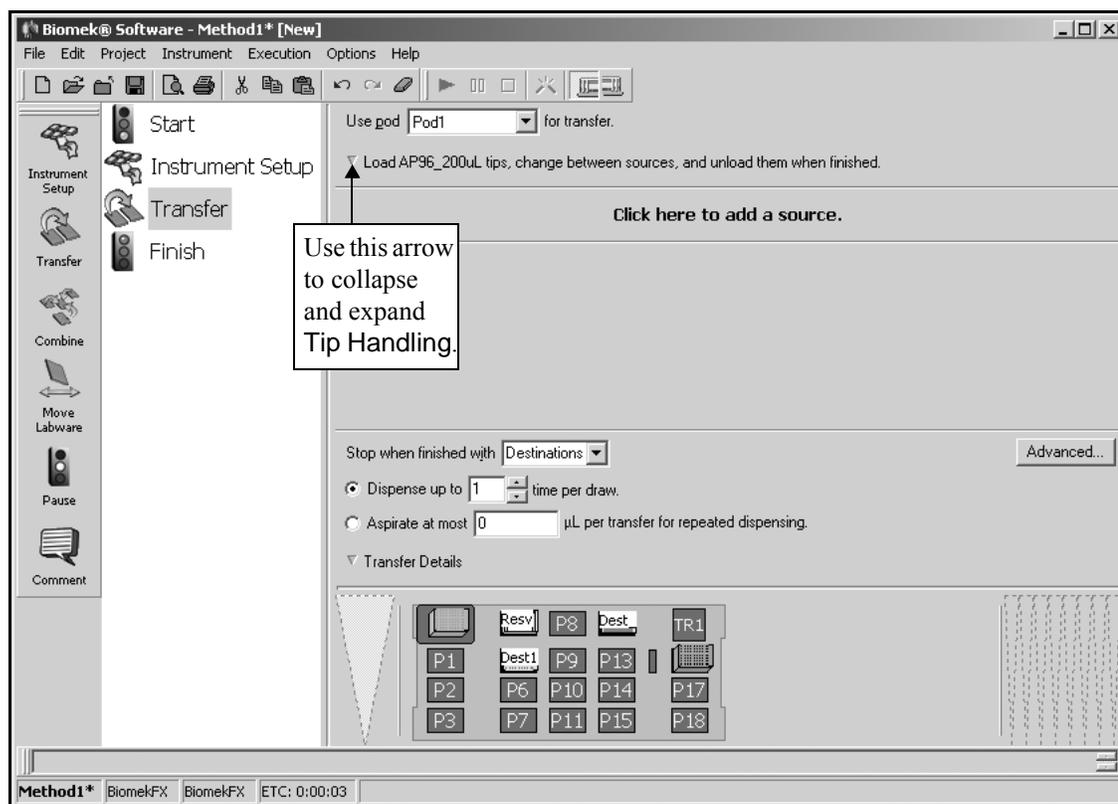

Figure 2-8. Transfer step with Tip Handling collapsed
7. Your tips are configured for your liquid transfer, so click the **up arrow** next to Tip Handling to collapse the configuration. This allows more room for the step configuration (Figure 2-8).